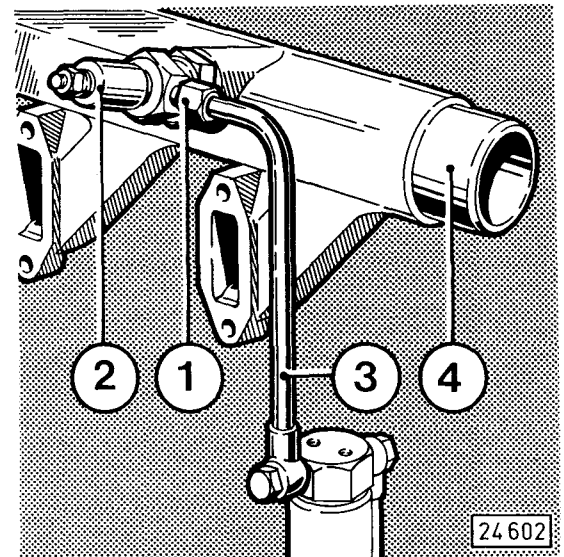

Fig. 59
When the heater plug functions properly, the intake pipe 4 (Fig. 59) should become fairly warm in the zone of the plug during the starting process with preheating (page 88). If not, check as follows:
- Loosen pipe coupling 1 (Fig. 59) by a few turns.